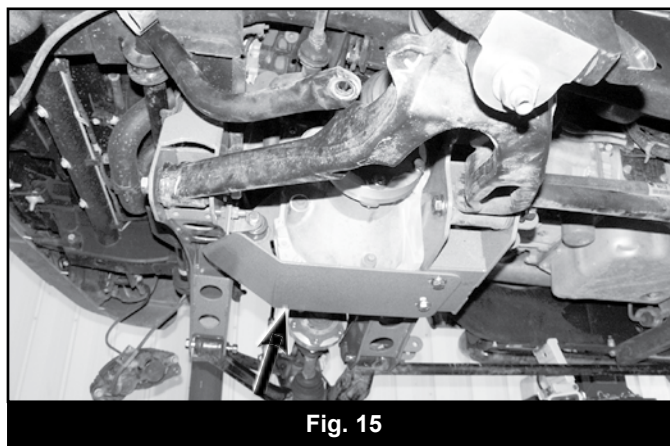

Fig. 15
44. Install the new differential skid plate (01184) to the welded nuts on the front and rear crossmembers with 1/2" x 1-1/4" bolts and 1/2" SAE washers from bolt pack #540 (Fig 15). Use loctite on the bolt threads. Leave hardware loose.